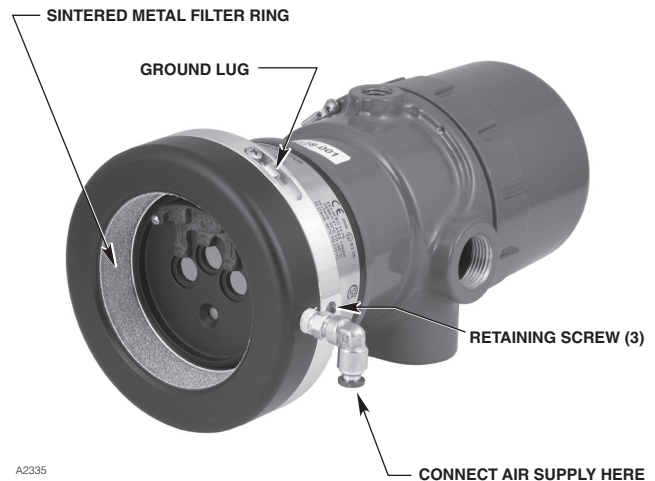

Figure 2—Q1116 Air Shield Attached to X3301 Detector
Air enters the Q1116 through the air inlet and exits through the sintered metal ring (Figure 2). This continuous flow of clean air forms an air buffer around the detector viewing window, reducing the accumulation of contaminants.
2. Place the air shield on the front of the detector. See Figure 2.
*In applications where static electricity buildup is a concern (such as powder coating booths), electrically connect the ground lug on the air shield (Figure 2) to the ground lug on the detector housing.*